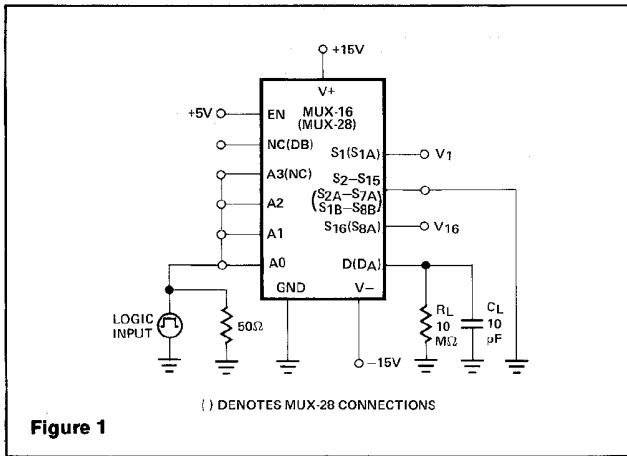

Figure 1
When operating with negative input voltages, the gate-to-channel diode will be turned on if the voltage drop across an ON switch exceeds  $-0.6V$ . While this condition will cause an error in the output, it will not damage the switch. In lab tests, the multiplexer output has been loaded with a  $0.01\mu F$  capacitor in the circuit of Figure 1. With  $V_1 = -10V$  and  $V_{16} = +10V$ , the logic input was driven at a 1kHz rate. The positive-going slew rate was  $0.3V/\mu Sec$  which is equivalent to a normal  $I_{DSS}$  of 3mA. The negative-going slew rate was  $0.7V/\mu sec$  which is equivalent to a "reverse"  $I_{DSS}$  of 7mA. Note that when switch one (1) is first turned ON it has a drop of  $-20V$  across its terminals. In spite of that fact, the current is limited to approximately twice its normal  $I_{DSS}$ .